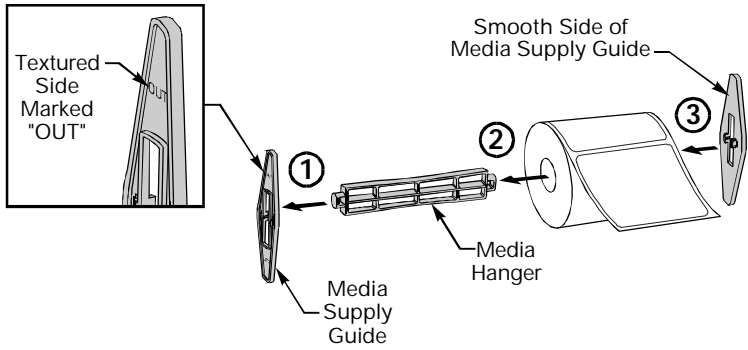

Figure 19
2. Insert one end of the media hanger into one of the media supply guides (refer to Figure 19).
4. Place the second media supply guide onto the other end of the media hanger (refer to Figure 19).